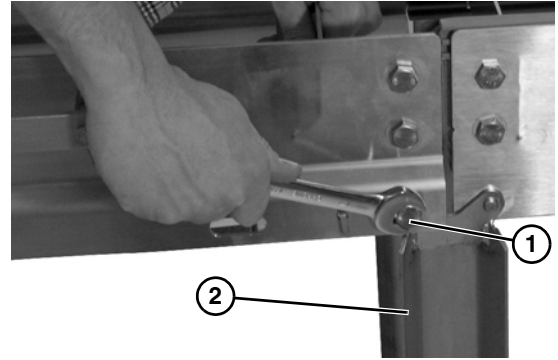

Figure 51
3. Remove hex head bolt (**Figure 51, item 1**) holding straight section frame to conveyor stand (**Figure 51, item 2**). Repeat on opposite side.